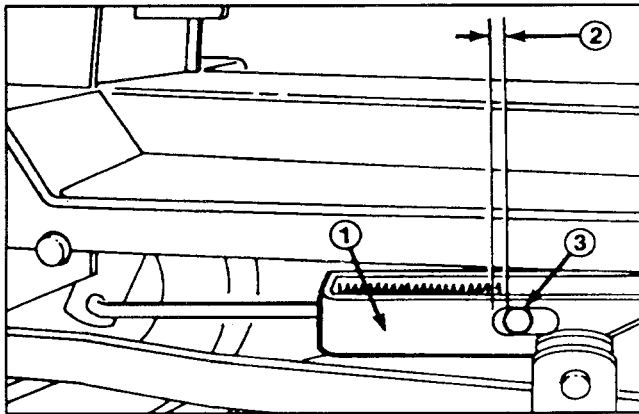

Figure 25
3. Rotate the adjustment rod until there is 0.060 inch (1.5 mm) or less between the end of the slot in the engagement bracket and the outer diameter of the pin (Fig. 25).